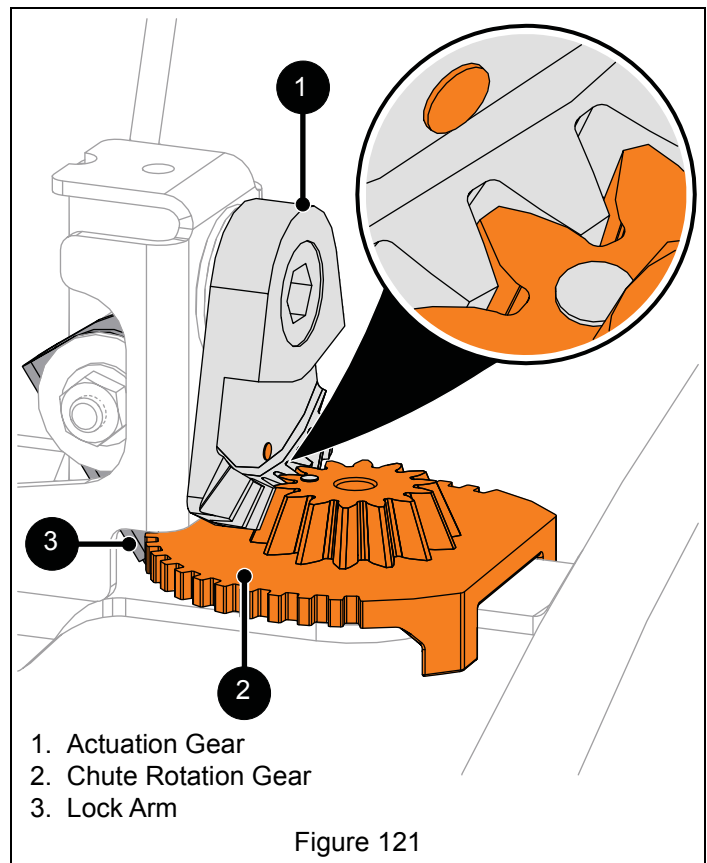

Figure 121
6. Remove hardware retaining chute rotation gear to pedestal plate and remove gear. See Figure 121.